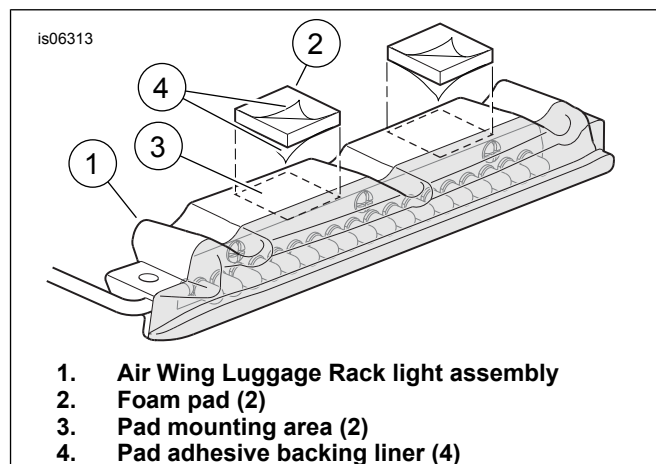

Figure 1. Attach Foam Pads to Light
5. Clean the foam pad mounting areas (E) on the underside of the rack rear crossbar and (see Figure 1) on the light (3) with a mixture of 50-70% isopropyl alcohol and 30-50% distilled water. Allow to dry thoroughly.